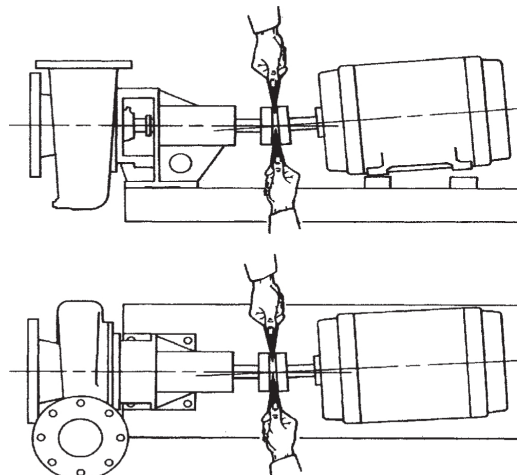
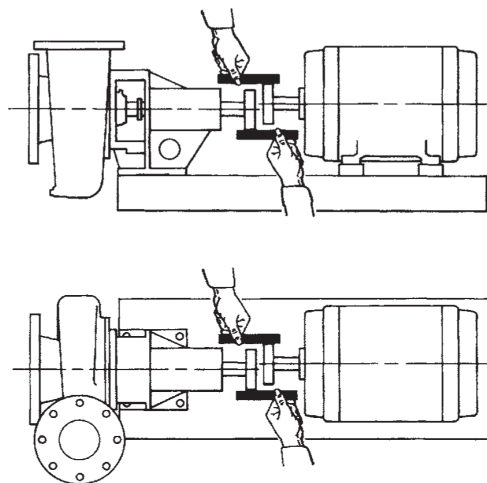

Fig. 5 Checking parallel alignment
Fig. 6 Checking alignment
- The pump and motor were accurately aligned at the factory, but handling during shipment usually alters this pre-alignment. Using a small straight edge and feeler gauges or a dial indicator, check for horizontal, vertical, and angular misalignment of the coupling hubs Fig. 5 and Fig. 6.